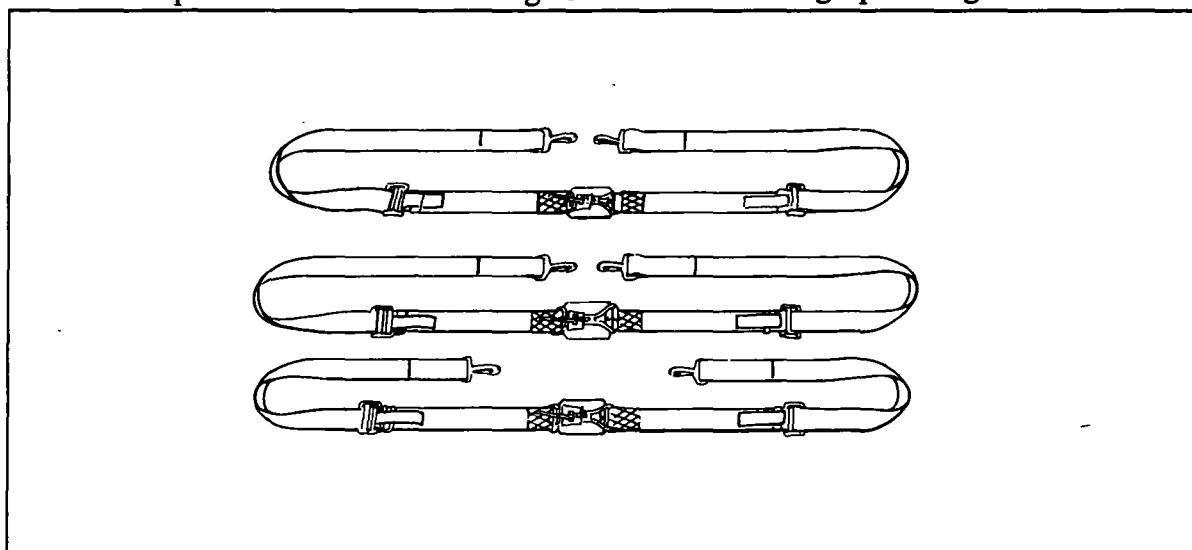

Figure 12-16. Modified C-3A troop-type safety belts.
a. The three modified C-3A troop-type safety belts, using the cargo floor tie-down fittings, restrain parachutists in groups of two and three by a single safety belt (Figure 12-16).